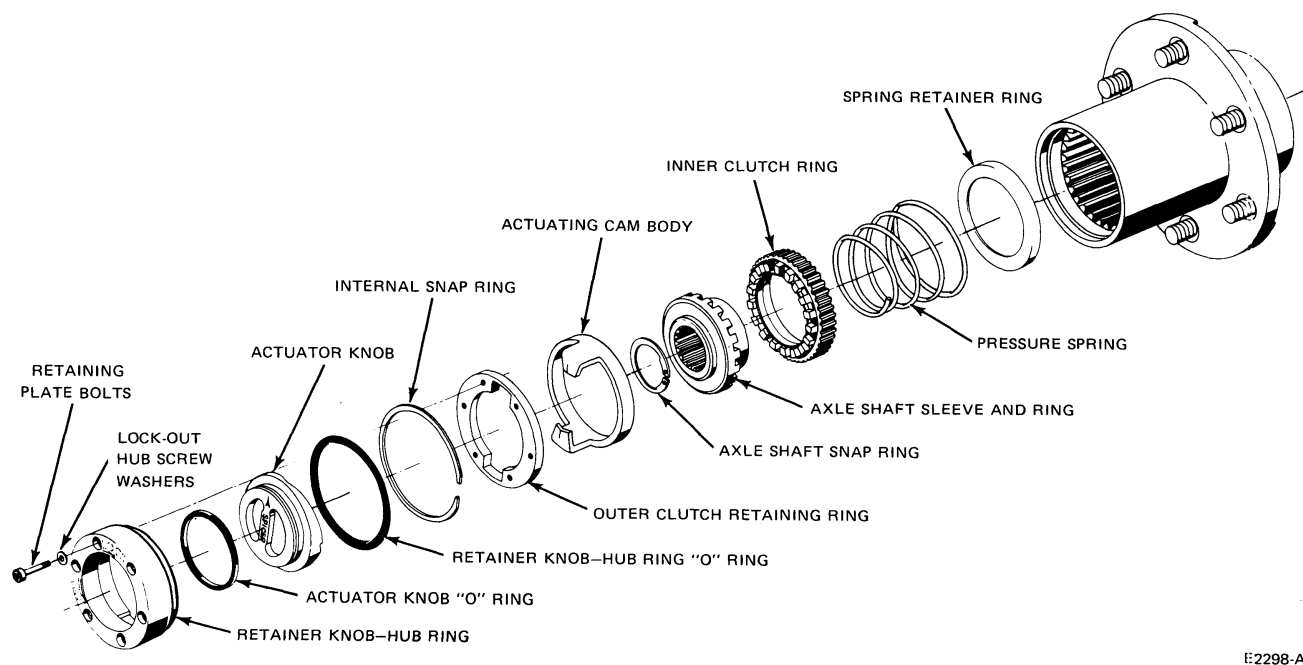

FIG. 6 Free-Running Hub—Internal-Type—Bronco, F-250 (3300-lb. Axles) Optional F-100
1. Remove the free-running hub screws and washers (Fig. 6).